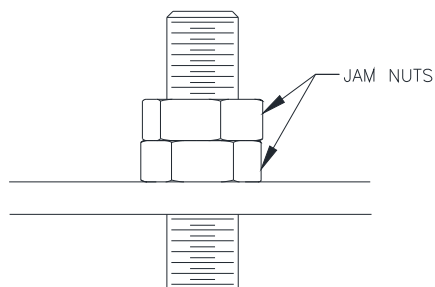

Fig 12b – Jam Nuts
- 25) Secure the cables with the jam nuts provided as shown in **Fig 12b**.